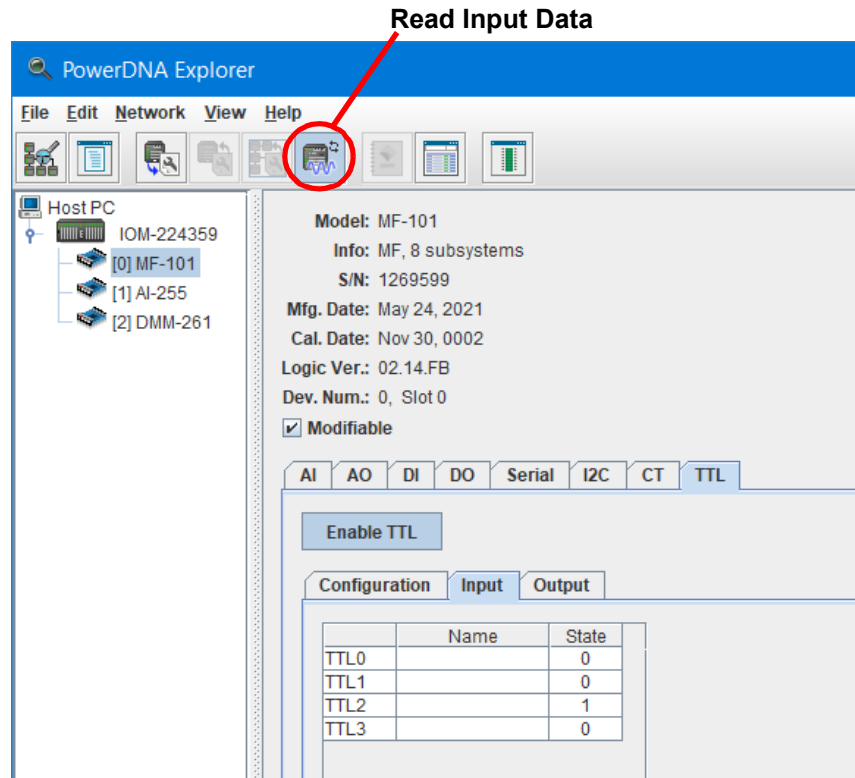

Figure 3-21 PowerDNA Explorer TTL Tab, Input Subtab
3.9.2 Read TTL Port Click the **Read Input Data** button to read the state of all four TTL channels. The TTL Input subtab (**Figure 3-21**) contains the following columns: